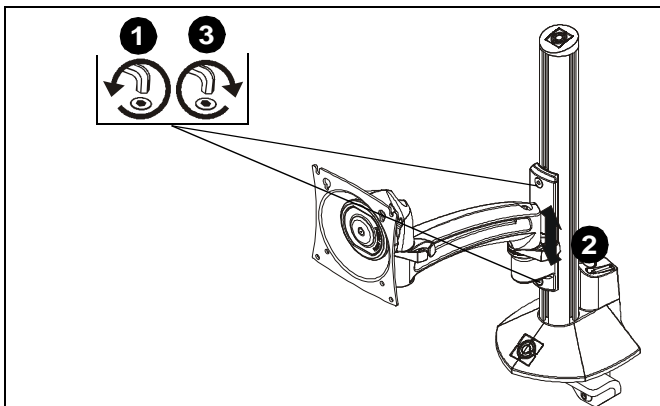

Figure 20
1. Loosen column adjustment knob. (See Figure 20)
2. Adjust height to desired level. (See Figure 20)
3. Tighten column adjustment knob. (See Figure 20)